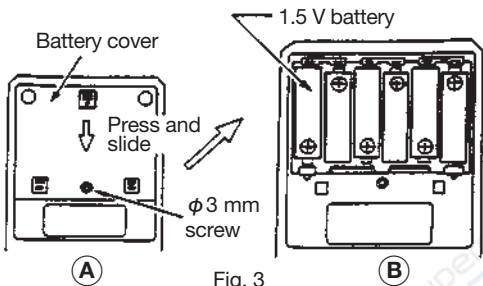

Fig. 3
2. Refer to Fig. 3 below for the battery replacement.
3. Remove the lock screw on the battery cover on the rear case, then remove the battery cover by sliding it down while pushing the square projection on the top center (Fig. 3[A]) with your finger, and insert batteries in correct polarity positions as shown by Fig. 3[B].